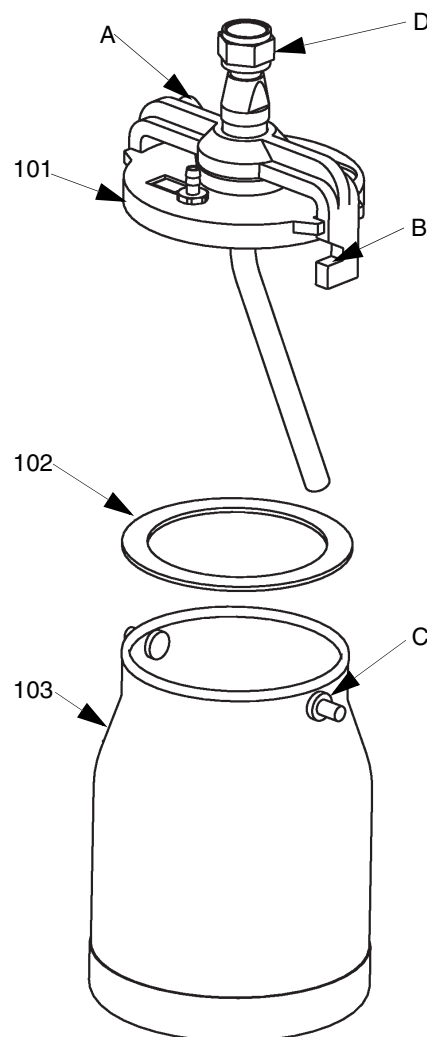

FIG. 3
1. Push clamp lever (A) fully to the unclamped position, against the yoke (B). See FIG. 3.
2. Twist cup lid (101) counterclockwise to disengage the yoke hook from the extended cup pins (C).
3. Remove the cup lid (101) and fill cup (103) with fluid.
4. Verify gasket (102) is installed on the bottom of the cup lid (101). Twist the cup lid (101) clockwise to engage the yoke hook (B), then push the clamp lever (A) fully to the clamped position. Use your thumb to force the clamp lever into position; do not use wrenches or tools to move it.
5. Securely connect the cup assembly onto the gun fluid inlet, using a wrench on the swivel nut (D).
1. Push the clamp lever (A) fully to the unclamped position, against the yoke (B). See FIG. 3.
2. Twist the cup lid (101) counterclockwise to disengage the yoke hook from the cup extended pins (C).
3. Remove the cup lid (101).
4. Clean the cup lid (101) and cup (103) with solvent.